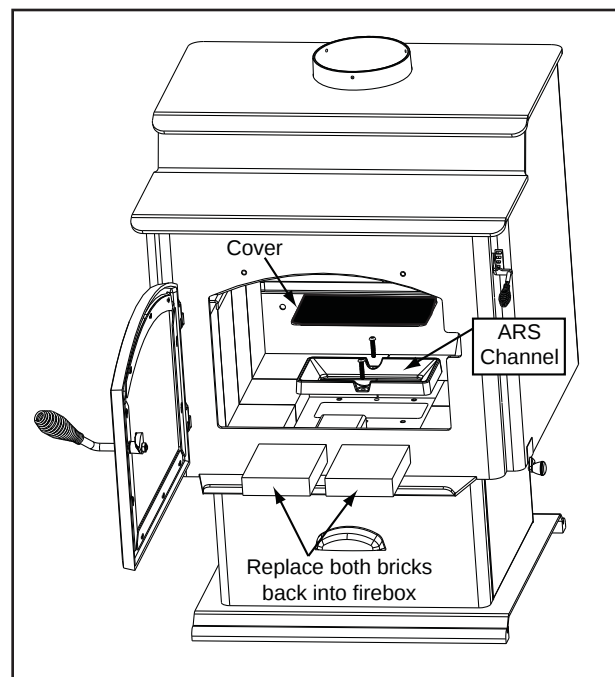

Figure 22.2
1. Re-install the ARS channel that was removed in Step 3 on page one and secure with 2 bolts previously removed. Set the cover into the ARS channel. Replace the 2 front cut bricks. **Figure 22.2.**
- Follow steps 1 through 3 on **page 22**. See also **Figure 22.2**.